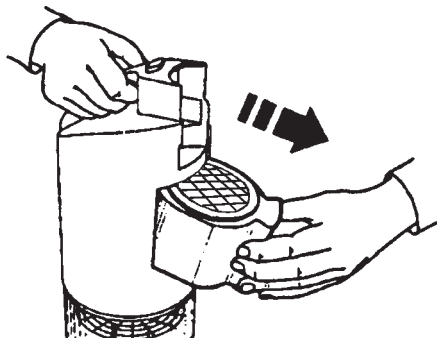

Figure 14
2. Pull out the Collection Bin Filter from its nest in the Collection Bin Cover. (See Figure 14.)